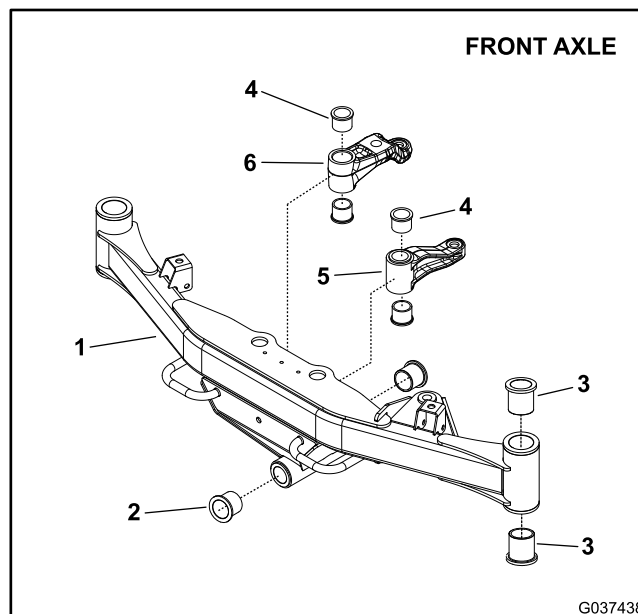
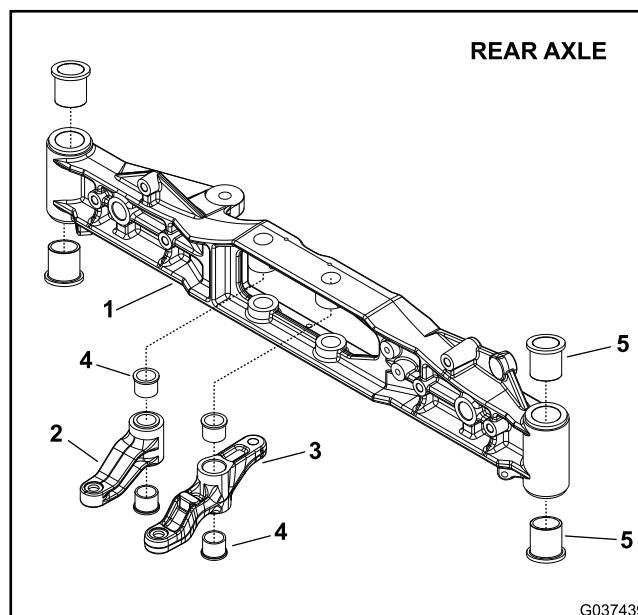

Figure 280
Figure 281
Use the following procedure to replace the bushings in the front axle and front arm (Figure 280) or the rear axle and rear arm (Figure 281) assemblies:
Note: Ream the bushings (item 4 in Figure 280 and item 4 in Figure 281) in the steering arms after installation. If the tools for ream are not available, replace the arm assembly which has bushings installed and properly sized.